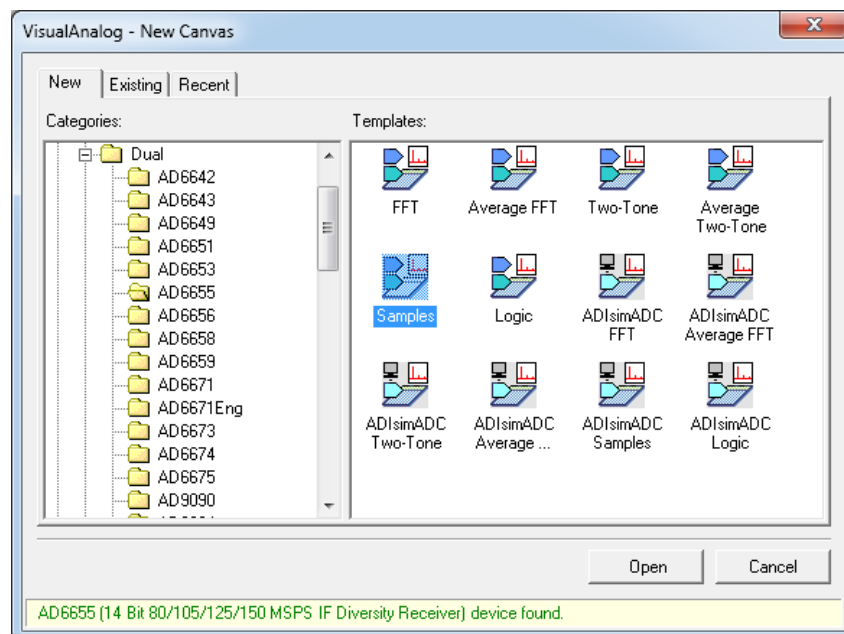
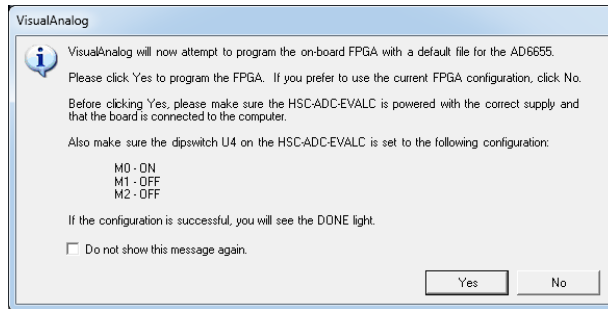
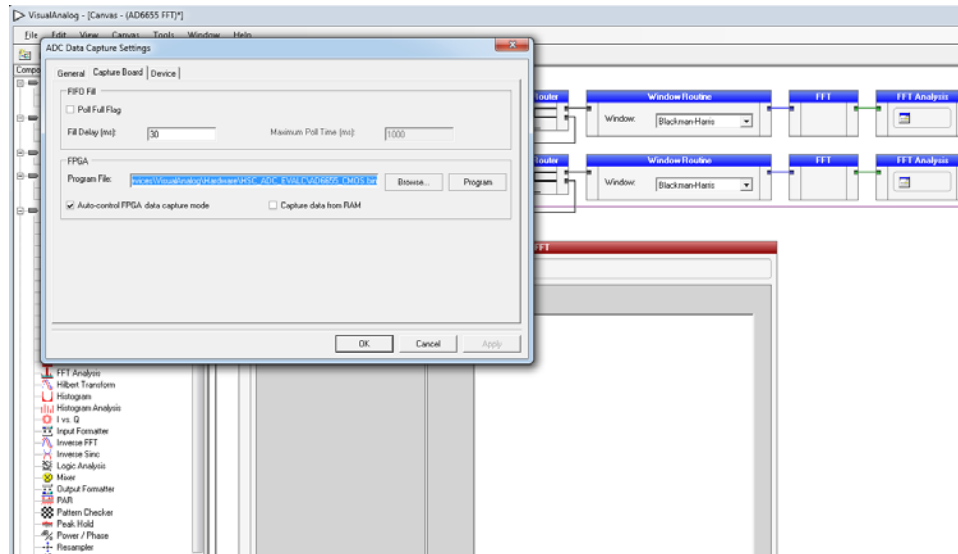

Figure 3. Visual Analog – New Canvas Selection
Figure 4. Auto-prompt For Programming FPGA
Figure 5. Manual Programming of FPGA (if necessary)
8. Open Visual Analog on the PC. “AD6655” should be listed in the status bar of the “New Canvas” window (see Figure 3). Select the template that corresponds to the type of testing that you are performing. Select ‘Yes’ when Visual Analog prompts for programming the FPGA (see Figure 4). The ‘DONE’ LED should illuminate on the HSC-ADC-EVALCZ board indicating that the FPGA has been correctly programmed. (If Visual Analog does not prompt for programming the FPGA select the ADC Data Capture Settings window and click on the ‘Capture Board’ tab. In the FPGA box select program to configure the FPGA. – see Figure 5)